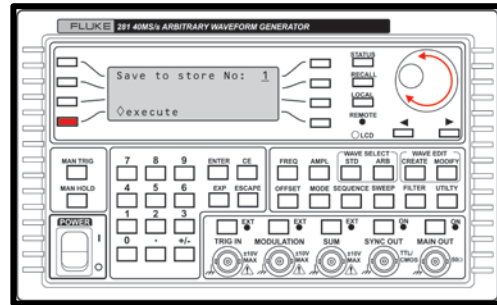

Figure 5.13 Adding a Setup to the AWG Store
2. Use the soft-key to select the **store** option (see **Figure 5.13**).